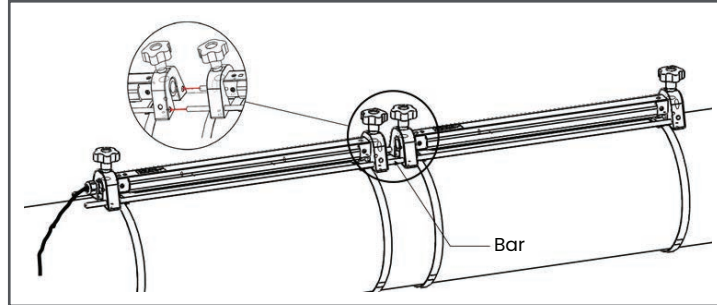

Figure 14: Two Traverse Installation with Two Clamp-on Fixtures
2. Hold one of the clamp-on fixtures, with two transducers and one cable, against the pipe between the upstream pair of straps and move the two mounting straps onto the fixture (see *Figure 14* below). Then, tighten the screws on the mounting straps, and verify that the straps remain in place on the fixture.